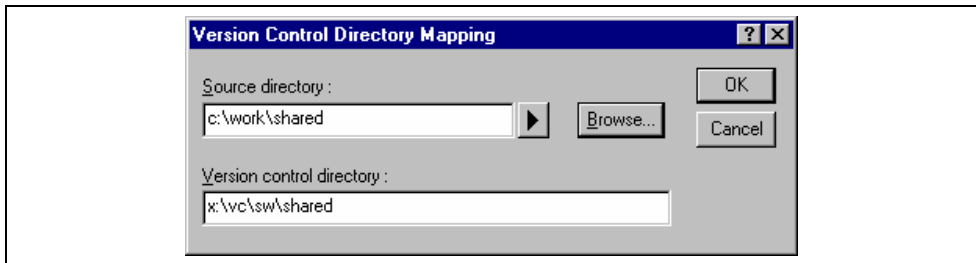

Figure 8.8: Version Control Directory Mapping Dialog
2. Click the “Add...” button that is next to the “Version control directory mappings” list. The dialog shown in figure 8.8 will be displayed.
2. Select the mapping to be modified from the "Version control directory mappings" list and then click the "Modify..." button. The dialog shown in figure 8.8 will be displayed.